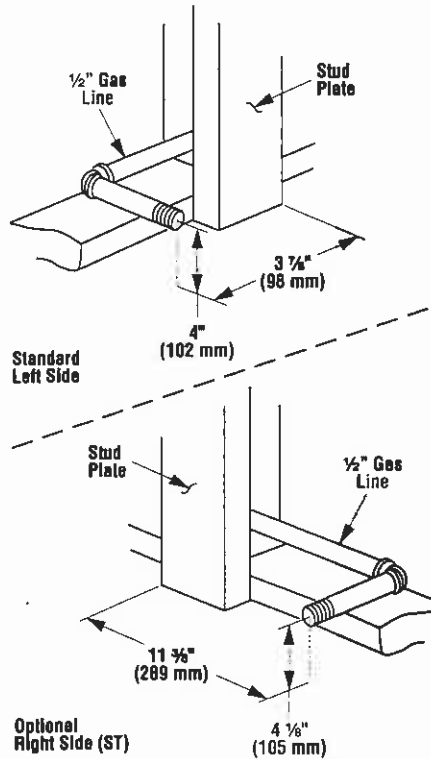

Figure 9
**Step 2.** Route a  $\frac{1}{2}$ " (13 mm) gas line along the left or right side framing (Figure 9).